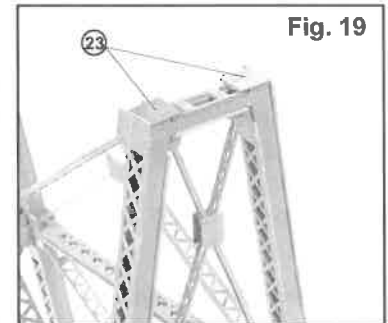
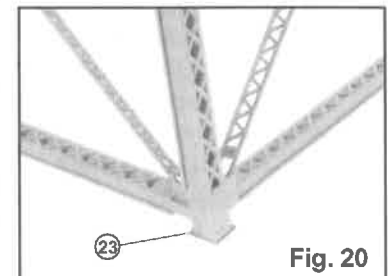

Fig. 19
Fig. 20
19. Cement the bearing plates part (23) to the top and bottom of the tower.
Position the top bearing plates so they are on top of the bent ends but against the edge of the tower gusset plates and are flush with the outside of the bent. See fig. 19. Position the bottom bearing plates against the bottom of the bents, centered on the four sides of the bent leg. See fig. 20. File or sand the edge of parts (21) and (22) and the bottom edges of the bent legs, if necessary, so the bearing plates sit level.